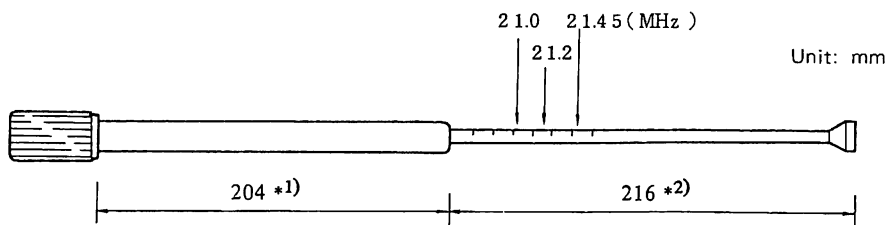

Figure 3.2.1 Radial Earth Element
- (1) The radial earth has a notched mark at the adjustable element, which is approximately calibrated with respect to the tune frequency as shown in Figure 3.2.1, below.